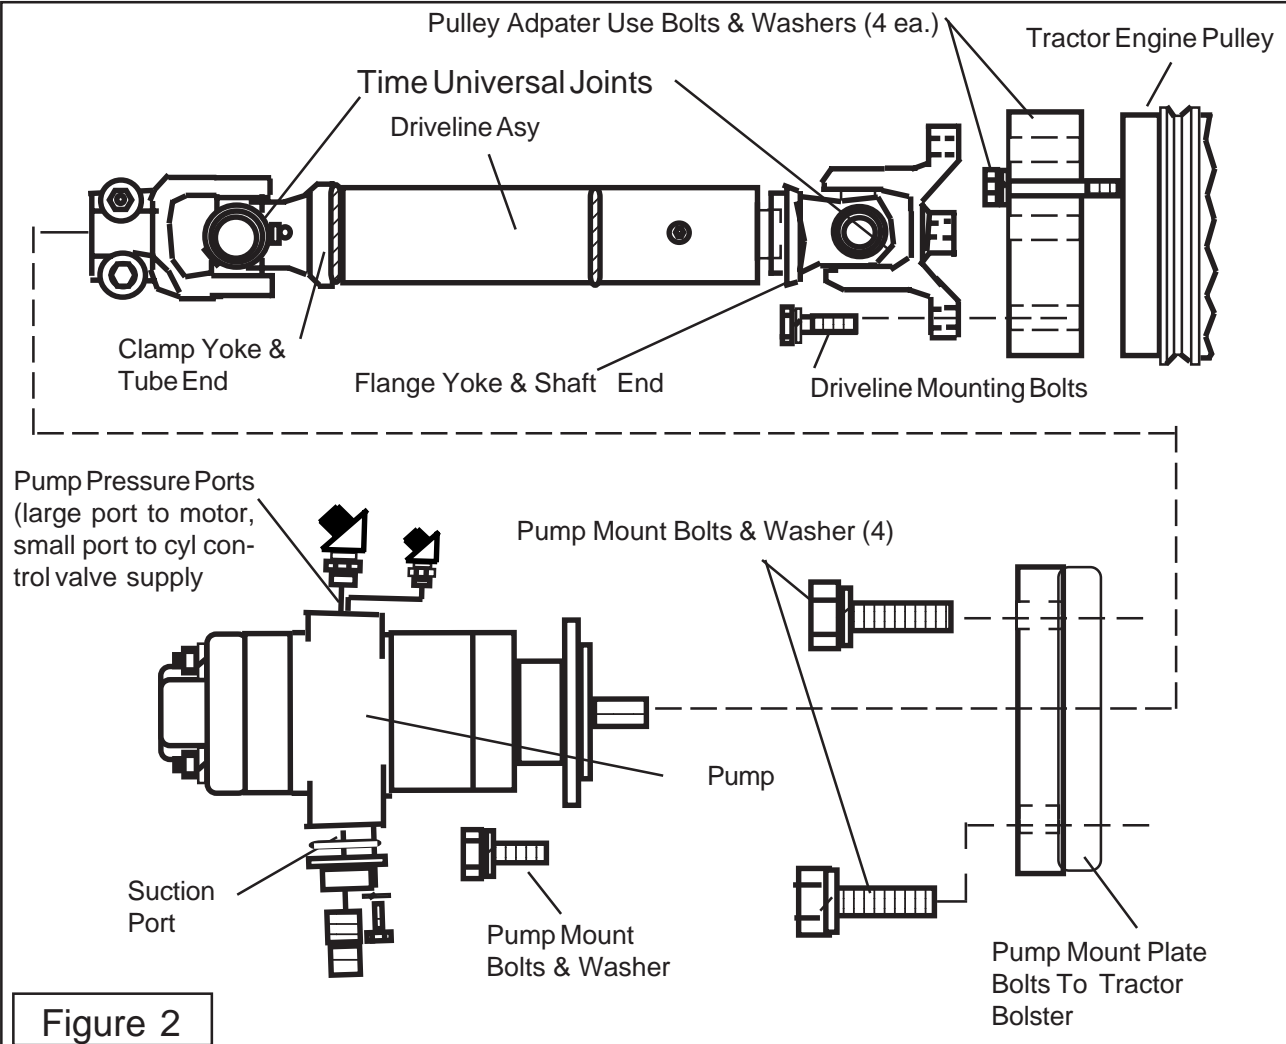

Figure 2
1. **Install Pulley Adapter.** The Pulley adapter is a round plate with 4 threaded holes and four non-threaded holes in it. The Non-threaded holes are used to mount the Adapter to the Pulley using 4 bolts & Lockwasher. Do not use longer bolts to mount Pulley Adapter to Pulley than is supplied with mounting kit. (See Figure 2)
2. **Driveshaft Assembly.** Some tractor models may have to have a hole cut in the front for the driveshaft to go into. If this is needed most tractors will have a (dimple) mark in the front to indicated the center point of the engine crankshaft. A hole of sufficient size will need to be cut, in most cases a 1-1/2" to 2" dia. hole will work. The drive shaft is a two piece Assembly, an inner and outer shaft assembly (See Figure 2 & 3). The Shaft End has a four bolt flange yokes on it that connect to the Crankshaft Pulley Adapter. The Tube end has a splined clamp yoke on it that connects to the Pump. This Drive Shaft connects to the Pulley Adapter. Note that the Universals of the Driveshaft are in time. When installed in tractor they should be in time as shown, both Yokes the same direction (See Figure 2 & 3).
4. Driveline timing means the universal joints are both the same position when driveline half is slid together. If they are not timed, it will decrease the life of the universal joint and in some cases could cause a vibration. (See Figure 2 & 3), **Driveline timing is critical to smooth operation.**
5. Install Tube End of Driveline / Pump End. Slide the Tube half of driveshaft through Pump Mount Plate and Tractor Crankshaft Access Hole (See Figure 8). You will have to align the Universals when doing this (time the Driveshaft). Slide the two together where the Universal are in time (See Figure 2, 3 & 5) this will help the driveshaft to operate smoothly.